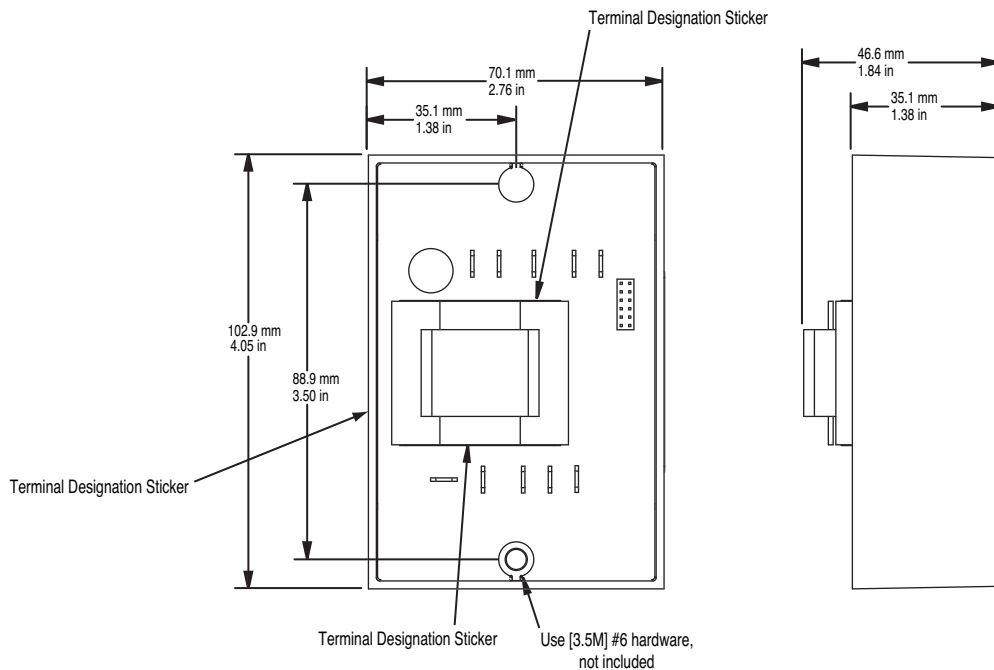

Figure 2b
1. Drill two 5 mm (0.187 in) diameter holes in the desired panel location. See Figure 2b for hole locations.